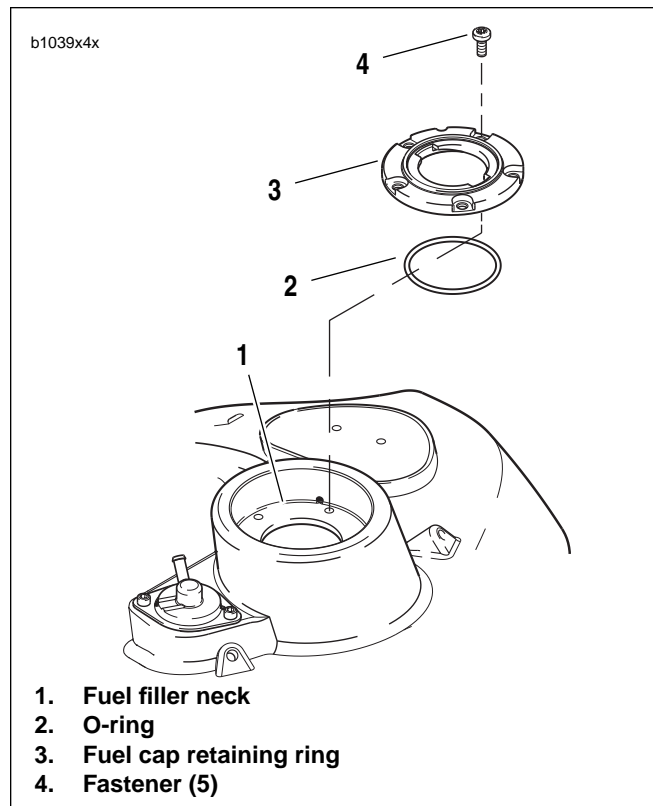

Figure 4-100. Fuel Cap Retaining Ring
3. See Figure 4-100. Remove fasteners (4) securing fuel cap retaining ring (3) to fuel filler neck (1).
4. Remove fuel cap retaining ring and o-ring (2). Discard o-ring.